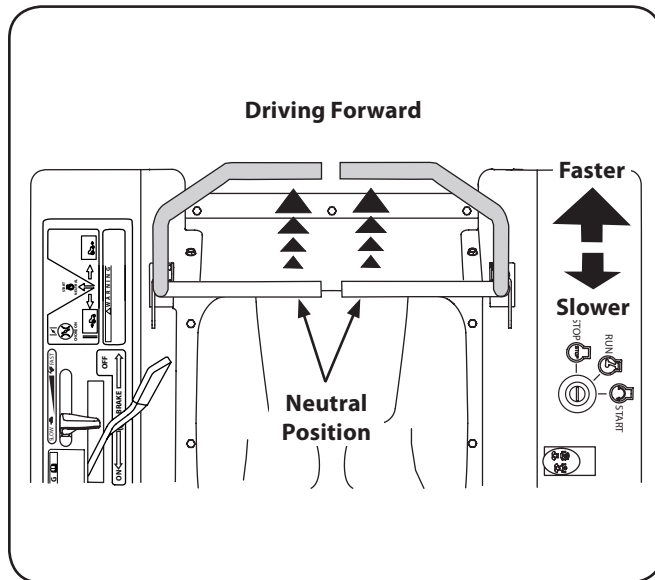

Figure 1-2
1. Slowly and evenly move both drive control levers forward. The tractor will start to move forward. See Figure 1-2.